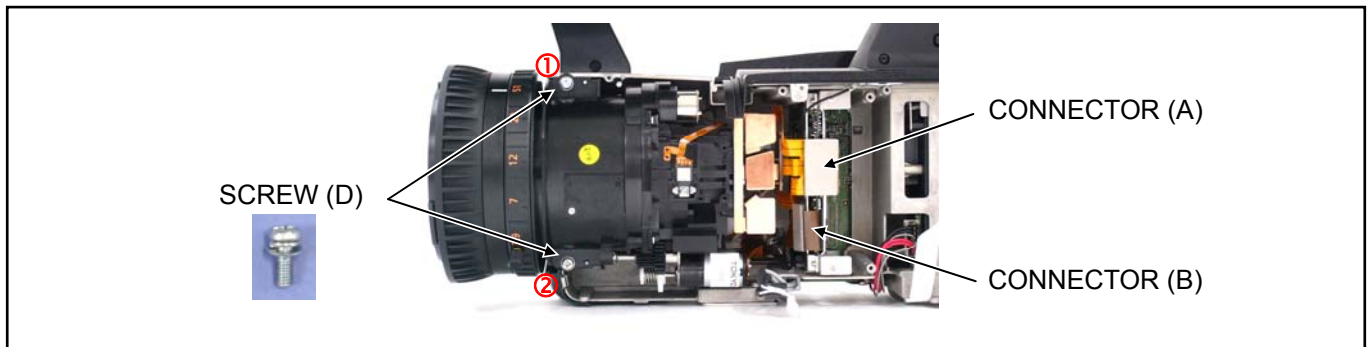

Figure 11-2
6. Disconnect the connector (A) and (B) as shown in figure 11-2.
7. Unscrew the 2 screws (D) and the CAMERA LENS Ass'y as shown in figure 11-2.